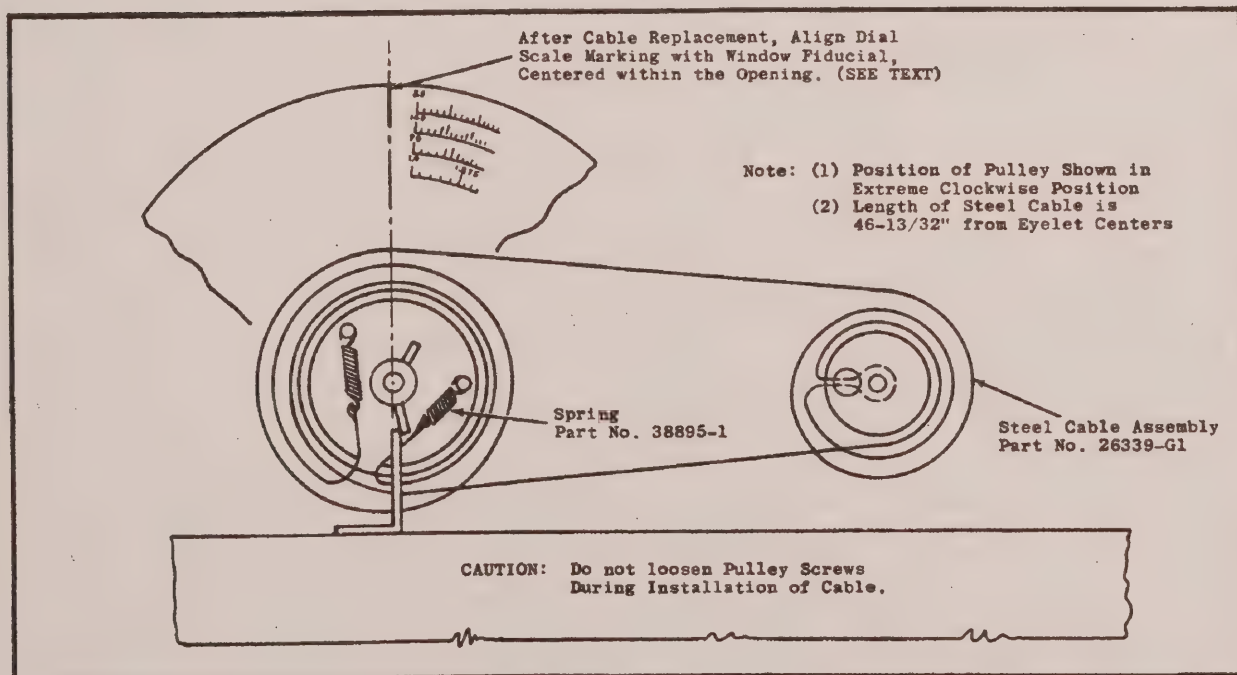

Figure 11. Installation of Dial Cable Assembly
1. Fold the dial cable in half, and insert the bent-loop end into the small hole of smaller pulley and loop the dial cable around the shaft (see figure 11).
2. Wrap one half of the dial cable around the smaller pulley for  $\frac{3}{4}$  of a turn in a clockwise direction. Guide this half of the cable underneath the larger pulley and wrap around the large pulley one (1) complete turn clockwise then hook the spring to the hole on the right side (see figure 11).
6. Fasten the Front Panel Assembly to the chassis by means of the (3) oval headed screws, spacers, and nuts.